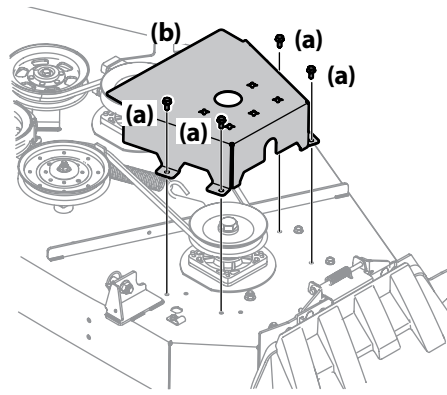

Figure 4-15
2. Remove the hex washer screws (a) securing the belt covers (b) to the deck. See Figure 4-15.
3. Remove the two idler pulleys (a & b) by removing the hex screws (c) and flange lock nuts (d) that secure them to the deck and the idler arm (e). See Figure 4-15. Do not lose any of the hardware (pulley caps (f), washers, belt guards (g) (if equipped)) when removing the hex screw (c) and flange lock nut (d).
5. Install the new belt around the spindle pulleys as shown and reinstall the belt covers (b). See Figure 4-15.